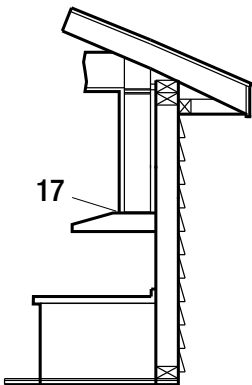

Fig. 8
In an interior venting system air is not exhausted outdoors (Fig. 8). Instead, air passes through the aluminum and charcoal filters and is recirculated indoors through the top vent of the range hood (17). Please refer to the Installation Section for more details.